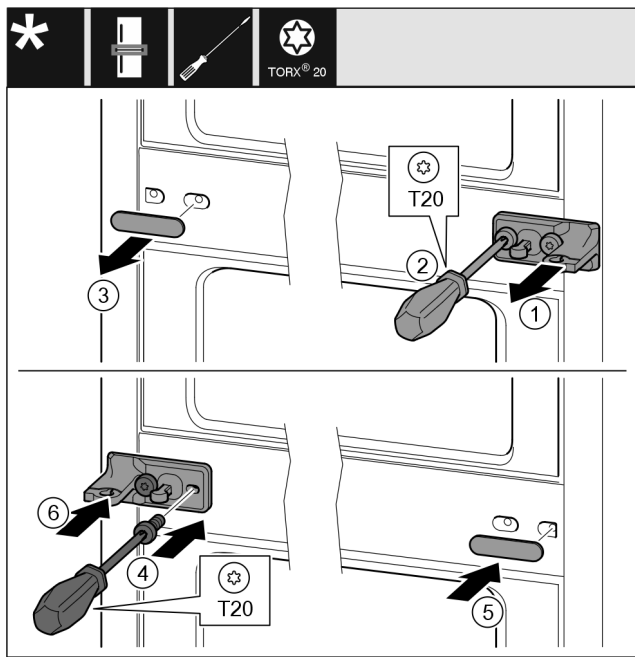

Fig. 10
- ▶ Remove the washer. Fig. 10 (1)
- ▶ Remove the screws with the T20 screwdriver. Fig. 10 (2)
- ▶ Remove the cover carefully. Fig. 10 (3)
- ▶ Screw the bearing bracket and the film rotated 180° firmly onto the other side. Fig. 10 (4)
- ▶ Attach the cover rotated 180° onto the other side. Fig. 10 (5)
- ▶ Push the washer in from the front. Fig. 10 (6)